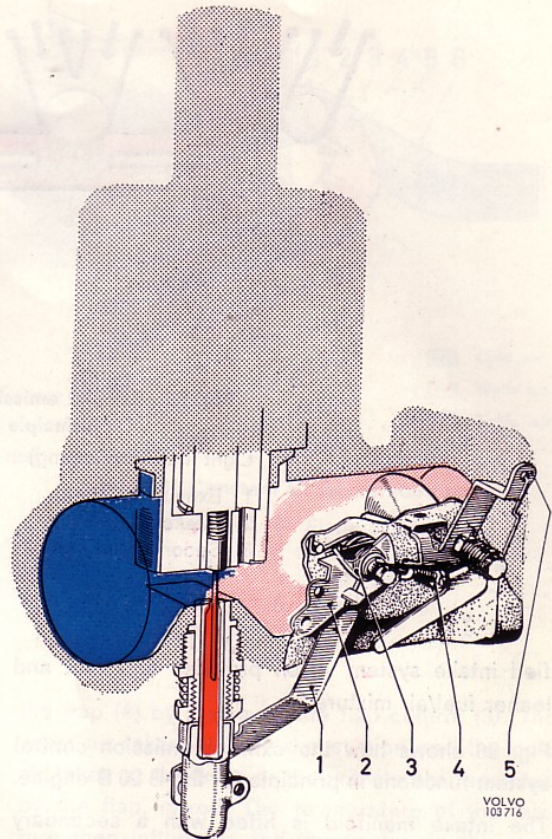

Fig. 85 Carburettor, fast idle
When the choke control is pulled out, the outer end of the lever (3) is pressed downwards and operates the jet so that this is also pressed down. In addition, the fast idling screw is operated by the cam on the lever (2, Fig. 85) and the throttle flap opens slightly.
When the choke control is pulled out, the throttle flap is operated. One end of the lever (2, Fig. 85) is in the form of a cam which presses on the fast-